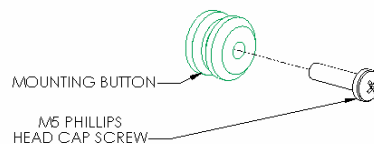
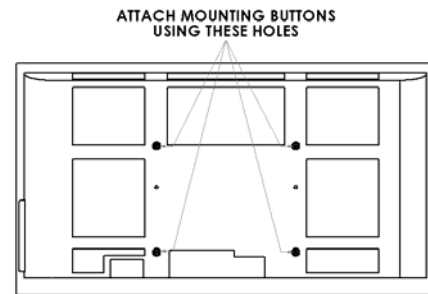

Figure 3
Figure 4
2. Attach mounting buttons to the display using four M5 screws provided (see Figure 3 & Figure 4). Use the proper length of screws for your given screen.